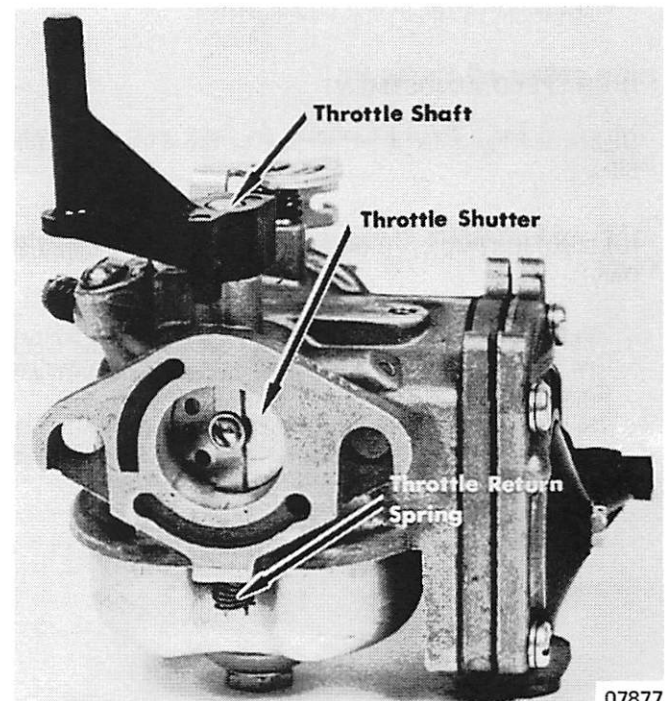

Figure 7. Throttle Shutter Installed
3. Install throttle shutter into slot in throttle shaft as shown in Figure 7 and secure with washer and screw. It may be necessary to move shutter to center it in carburetor body.